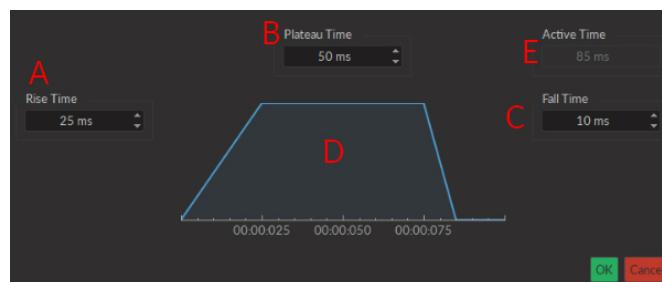

Figure 3.60: *Light Source Smoothing Edge(s) Window*
- iv. The **Smoothing** option is used to change the pulse slope in square pulse sequences. The **Edit Edges** button opens the **Smoothing Edge(s)** window (Fig. 3.60).